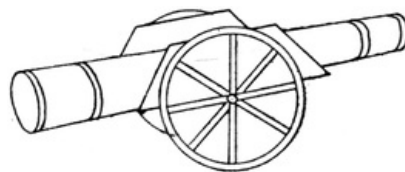

FIG. 91
**A Field Gun.** Fig. 91 shows how the match-box is cut. The gun is made from a roll of brown paper. A piece 4 or 5 inches square is large enough. Yellow bands can be chalked round the cannon. The wheels are made of circular discs, the size of a penny. Shots can be made from silver paper, or from plasticine.